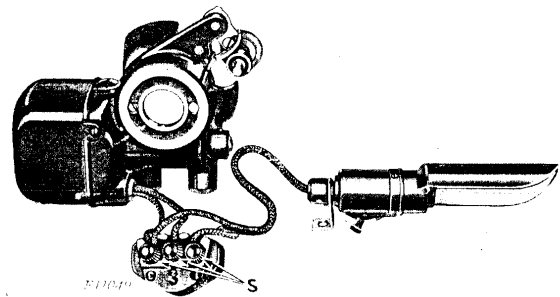

FIG. 4. MOTOR, THREE-PIN TERMINAL AND SINGERLIGHT
The motor, three-pin terminal and Singerlight may be removed as a unit, as shown by Fig. 4, as a matter of convenience when
**Three-Pin Terminal.** Inspect the connections at the three thumb nuts (S, Fig. 4). See that the thumb nuts are screwed down firmly to ensure tight connections. Each of the three pins is provided with a washer. See that this washer is, in each case, placed above the wire or wires before tightening the thumb nuts.